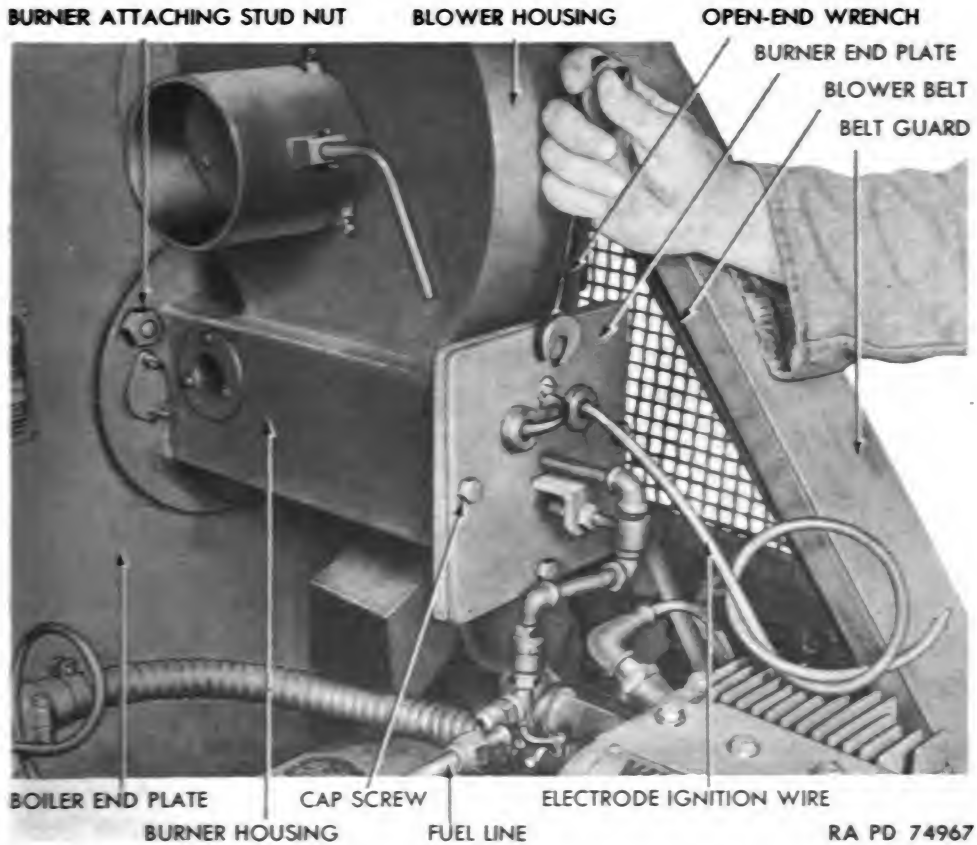

Figure 108 — Removing Steam Generating Plant Burner End Cap Assembly
(a) Remove belt guard (fig. 108) by removing the three cap screws which secure it to the boiler and frame.
(b) Remove blower belt (fig. 108).
- (c) Disconnect fuel line from elbow (fig. 108) on burner.
- (d) Pull electrode ignition wire from magneto (fig. 108).
- (e) Remove three stud nuts which attach oil burner and blower assembly to boiler end plate (fig. 108).
(2) DISASSEMBLY.
NOTE: It is unnecessary to remove burner from boiler to disassemble burner (fig. 108).
(a) Remove the four cap screws which secure burner end plate to burner housing (fig. 107). (If burner is installed in boiler, first disconnect fuel lines and electrode ignition wire (fig. 108).)
NOTE: If burner is installed in boiler, first remove belt guard and blower belt (fig. 108).
(a) Place gasket and fan assembly in position in blower housing (fig. 108). Install four screws which secure fan assembly in place.
(4) INSTALLATION (fig. 108).